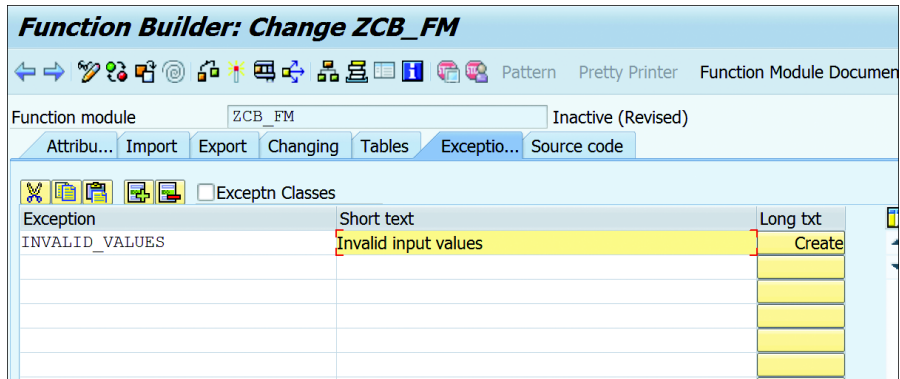
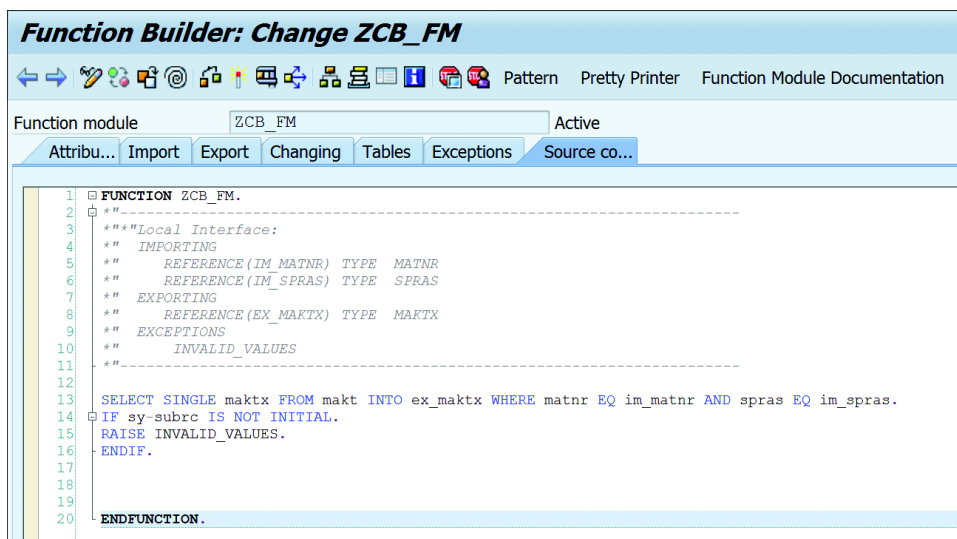

Figure 7.19 Exceptions Tab
Figure 7.20 Source Code Tab
You raise exceptions using the **RAISE** keyword in the source code of the function module, as shown ahead at line number 15 in Figure 7.20. To maintain the exception, enter the name of the exception in the **EXCEPTION** column and **SHORT** and **LONG TEXT** in the respective columns to provide additional information (Figure 7.19).
- ▶ **SOURCE CODE:** In this tab, you write the ABAP code for the function module within the `FUNCTION...ENDFUNCTION` block. Figure 7.20 shows code in which a function module is importing the material number and language through the `im_matnr` and `im_spras` parameters, respectively, and exporting the material description in the `ex_maktx` export parameter. If the `SELECT` statement fails, an exception is raised.